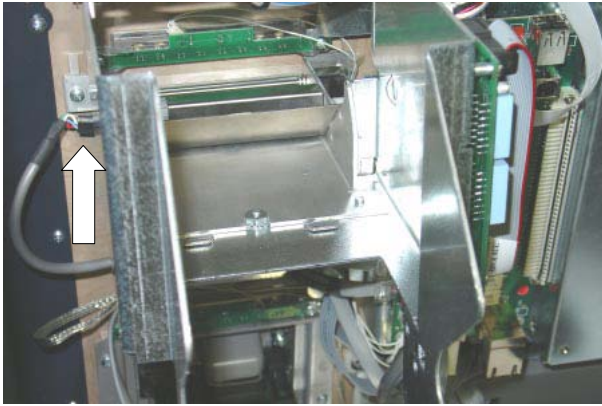

Figure 6. Location of presenter board cable connection.
- Next, disconnect the printer presenter cable from the presenter board and docking board assemblies. Figures 6 and 7 show connection locations. Remove this cable. This will be replaced with cable (P/N 09120-00208) included in kit.